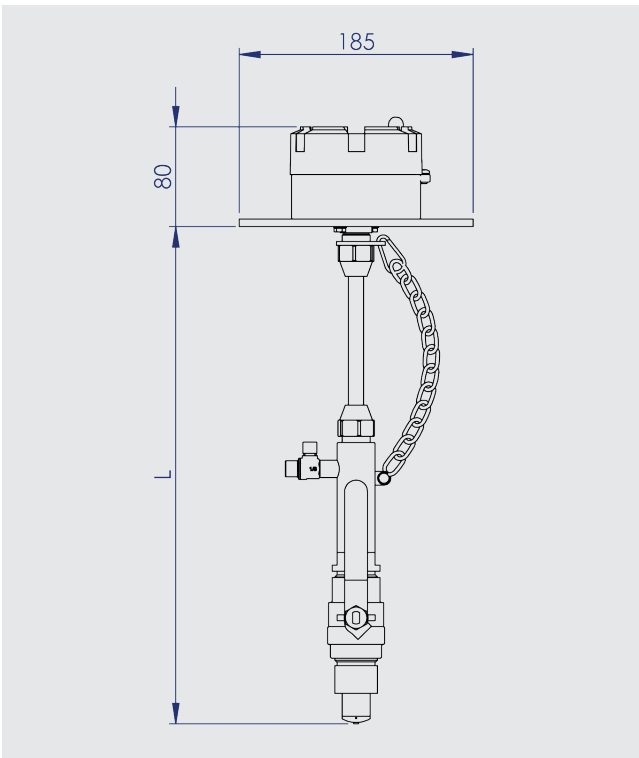

Fig. 63a: FLC-1222 dimensions
- L = Flow meter length according to the table of Fig. 63a;